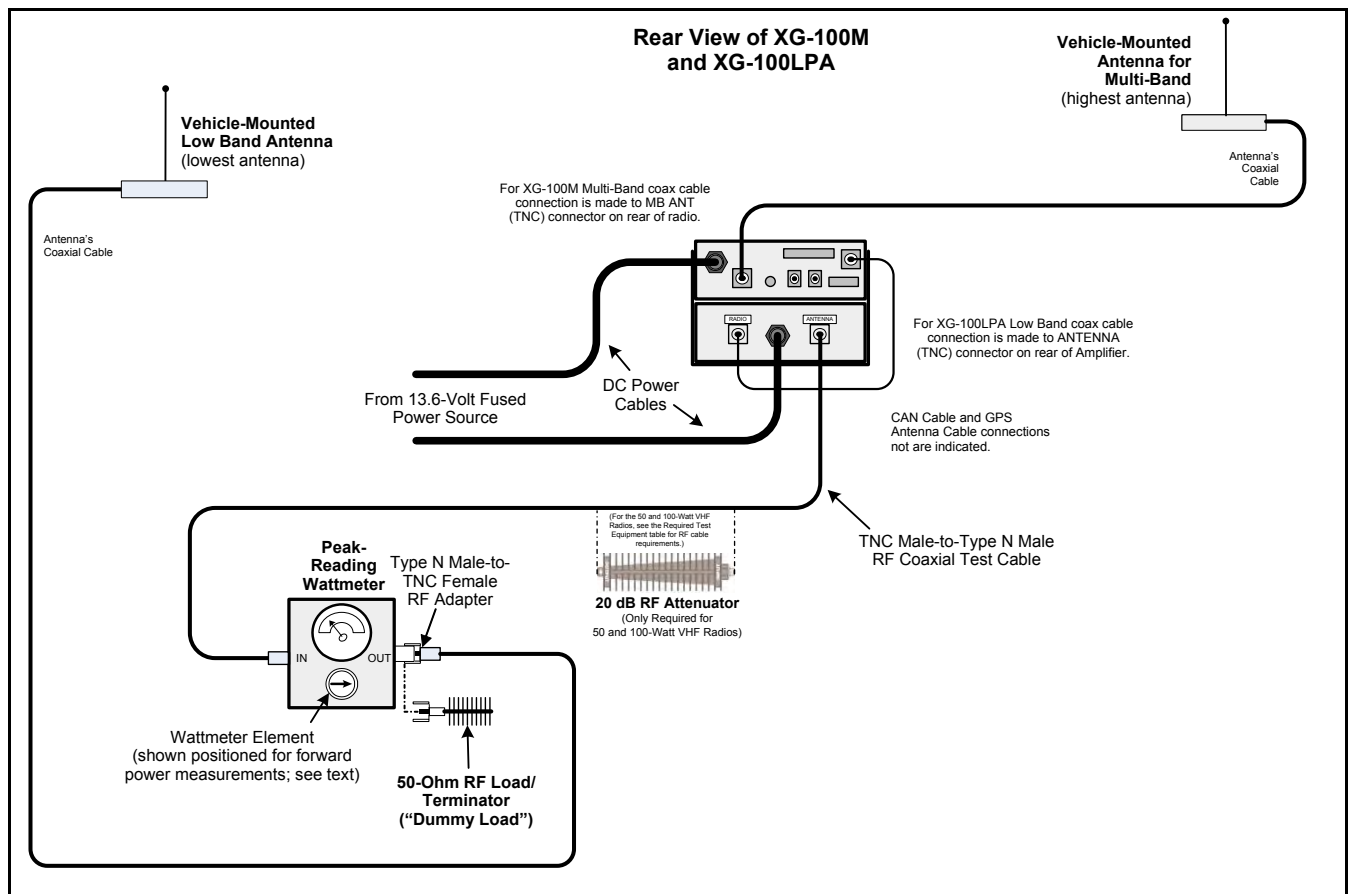

Figure 17-2: Wattmeter Connections for LBPA Antenna Tests
3. Connect a Type N male to Type N male to the wattmeter’s input connector. See Figure 17-2.
3. Connect the cable from the vehicle-mounted LBPA antenna (cable labeled “LBPA Antenna”) to the wattmeter’s output connector. See Figure 17-2.